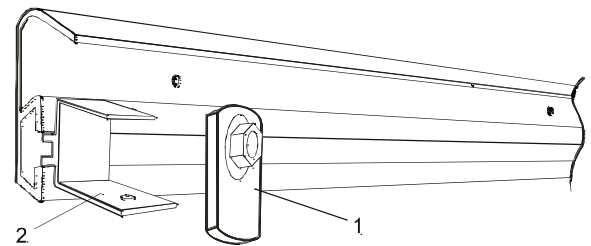

Fig. 13
Alternately slide one finger bracket (1) and one rear rafter bracket (2) into the slot provided in the rear roof track (see Fig. 13). Space brackets evenly along the rear roof track.